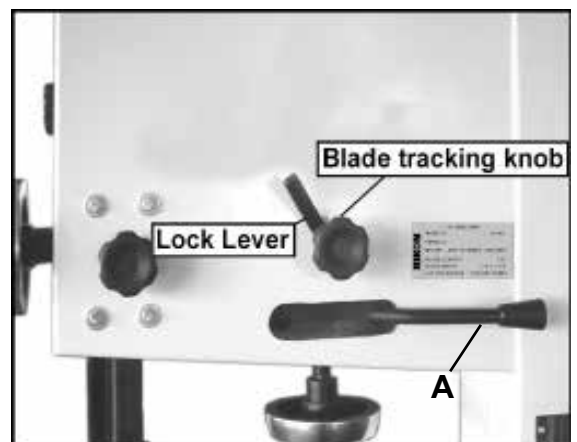
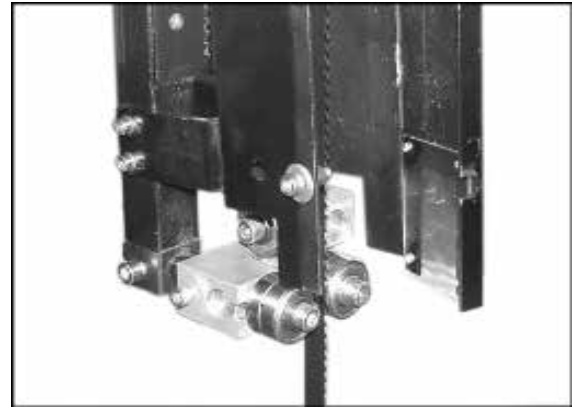

Figure 14
Figure 15
- Release the blade tension by moving the quick release lever (A--Fig. 14) from right to left. Open the hinged door on the blade guard by loosening the hex screw. (Fig. 15 on page 12)
- f) Re-tension the new blade by moving the quick release lever (Fig. 14 on page 11) right to left and check the blade tracking. The blade should run in the center of the wheel. Refer to “Tracking the Saw Blade” on page 6 for more details.
- j) Close the hinged door on the blade guard and tighten the hex screw. (Fig. 15)